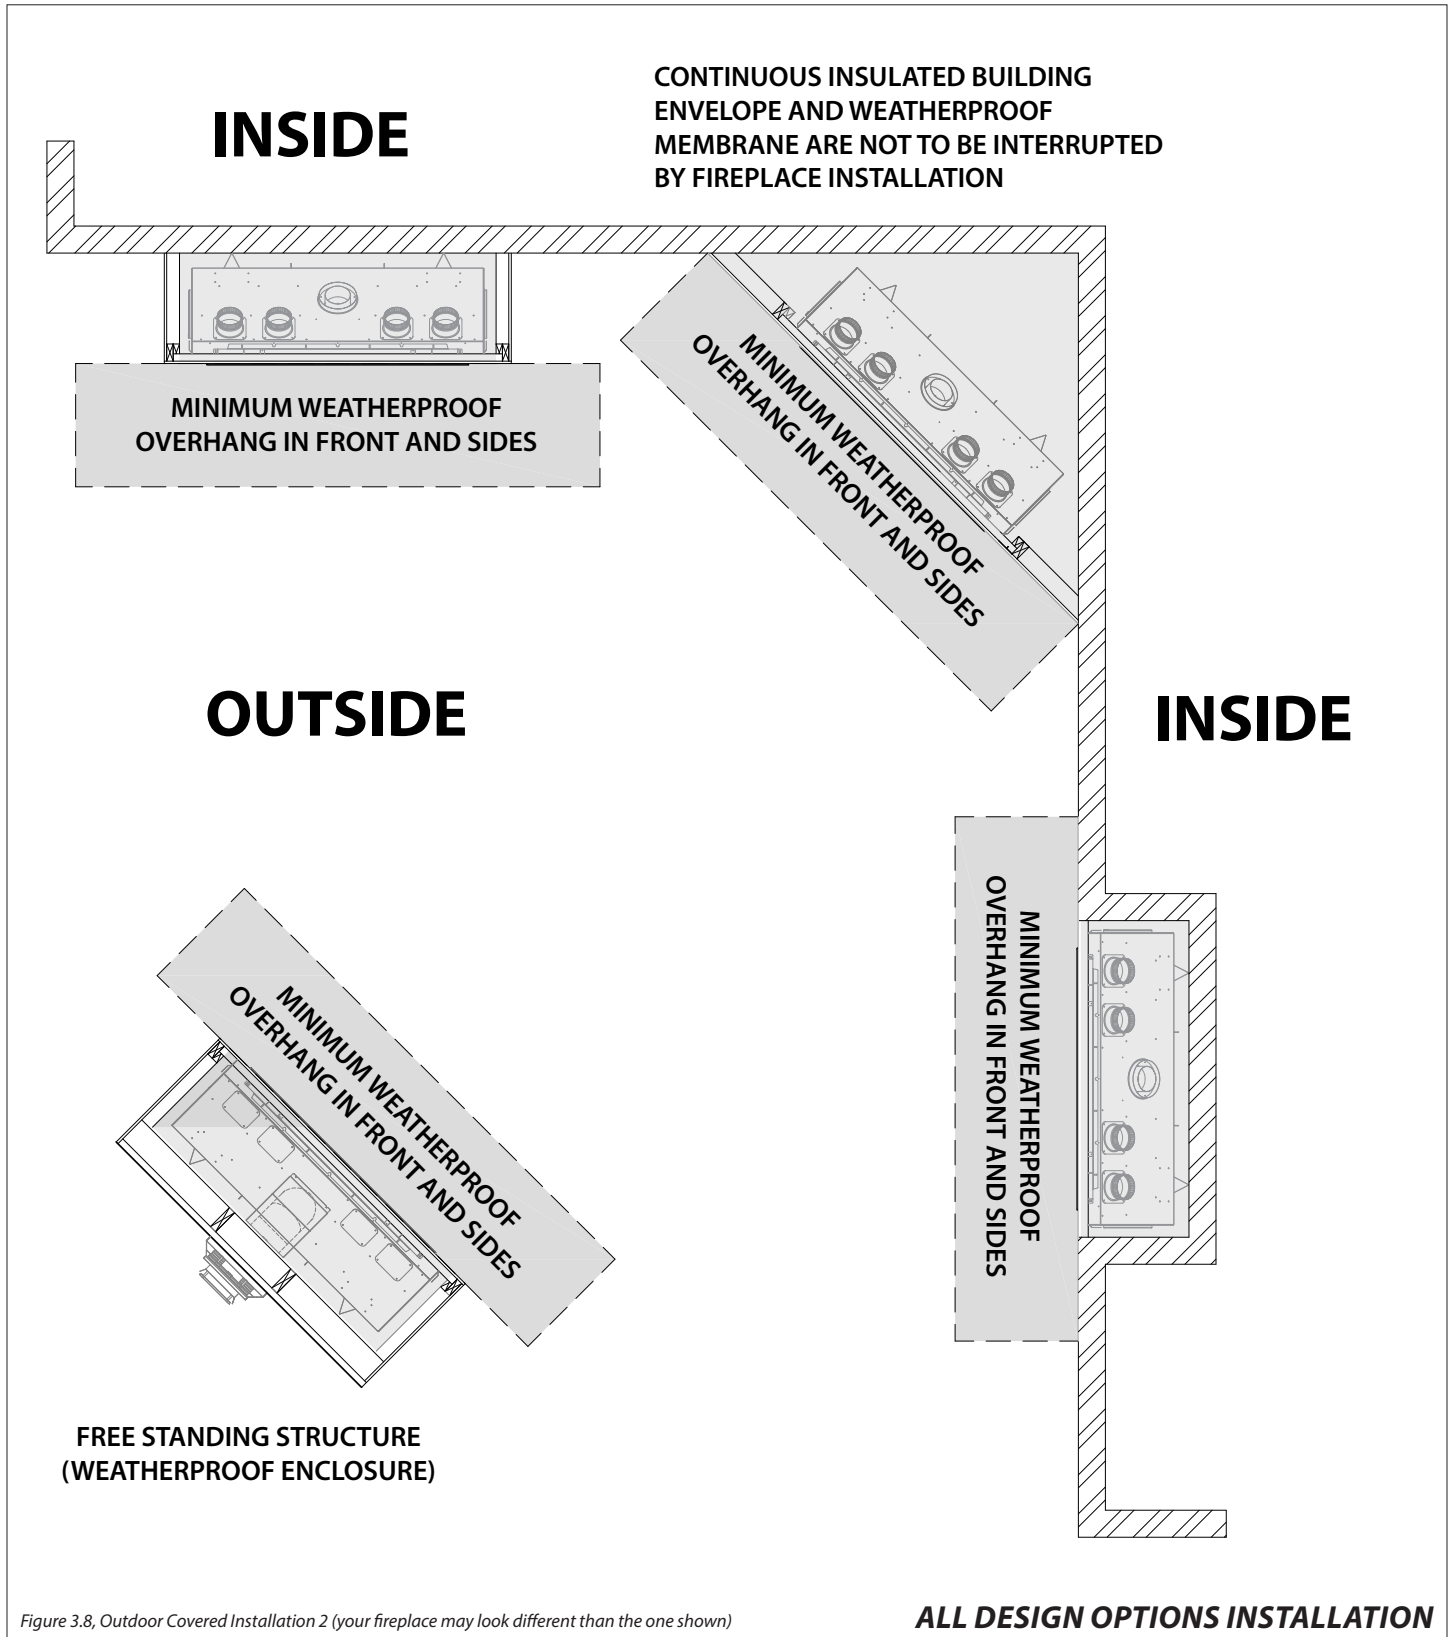

Figure 3.8, Outdoor Covered Installation 2 (your fireplace may look different than the one shown)
- The continuous insulated building envelope and weatherproof membrane are not to be interrupted by fireplace installation. See Figure 3.8 on the following page.